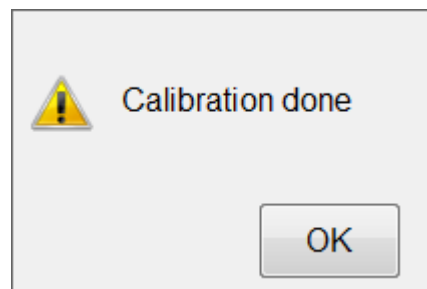

Figure 6-11 Base coordinate calibration success message
6. The calibration success message will be displayed, as shown in Figure 6-11. Press the "OK" button to end.